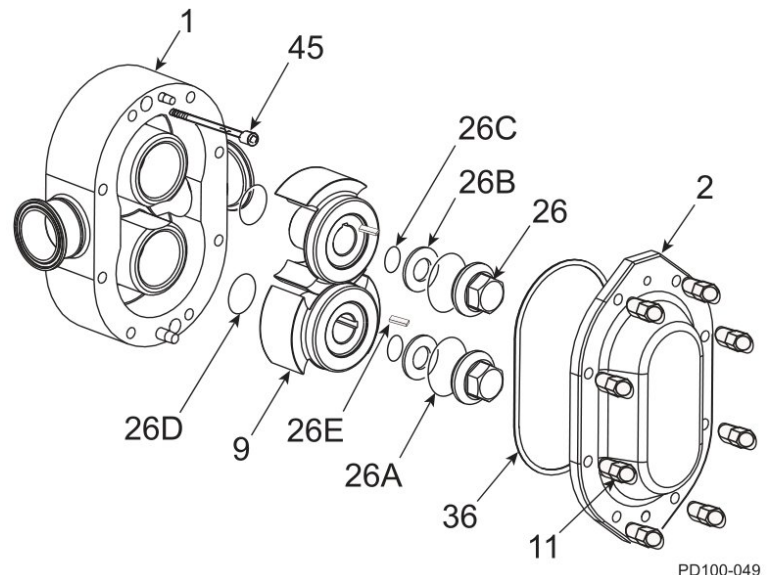
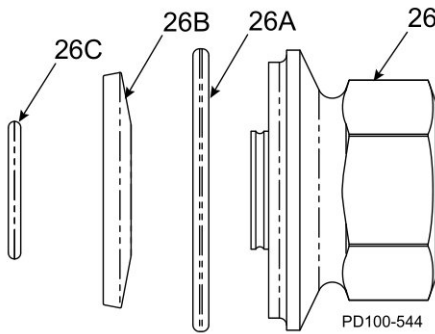
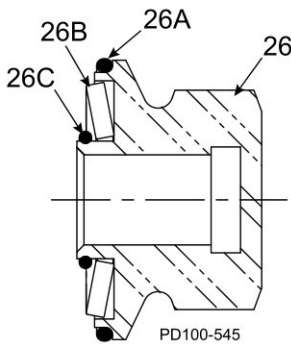

Figure 70 - Exploded View of Fluid Head
Figure 71 - Rotor Nut Assembly
Figure 72 - Cross-Section View of Rotor Nut Assembly, as Assembled
2. Install the body (Figure 70, item 1) to the gear case assembly, aligning the body with the body studs. Avoid damaging the seals as the body is drawn over the shafts.
3. Secure the body to the gear case using two cap screws (Figure 70, item 45).
1. Lubricate the rotor hub O-ring (Figure 70, item 26D) with a lubrication compound compatible with the O-ring material and process fluid(s).
2. Install new rotor hub O-rings (item 26D) into the groove on the rotor hubs.
3. Install the rotors (item 9) onto the shafts.
4. Align the keyways in the rotors with the keyways on the shafts and install the keys (item 26E).
NOTE: For rotor nut assembly detail, including orientation of the belleville-style washer (item 26B), see Figure 71 and Figure 72 on page 50.
See Figure 70 on page 49, and Figure 71 and Figure 72 on this page.
1. Clean the cover O-ring (See Figure 70 on page 49, item 36) and install it in the groove in the cover.
3. Install the cover (See Figure 70 on page 49, item 2) on the pump body.
5. Tighten the cover securely using the cover nuts (See Figure 70 on page 49, item 11) and Table 12.